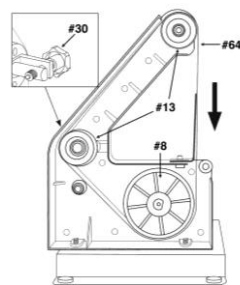

Fig. 18
3. Turn the belt tracking knob (#30) counterclockwise to loosen and remove the abrasive belt (#64) (Fig. 18).
4. Position the new belt on the wheels (#8, 13). Make sure the directional arrows on the belt point in the same direction as the arrows on the tool (Fig. 18).
5. Turn the belt tracking knob clockwise until the belt tracks to the centre of the wheels (Fig. 18).